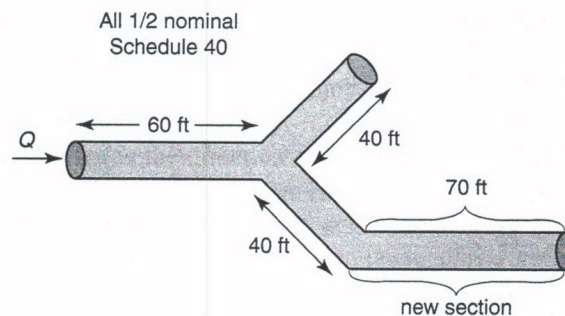

Figure 9.51
25. A Y-shaped piping installation for water flow is extended as shown in Figure 9.51 by the addition of a 70-foot section of the same type of pipe. The flow rate into the piping is a constant value of 4.0 gpm. What is the flow-rate split before the modification? What is the flow-rate split after the modification? All of the piping is 1/2-inch nominal Schedule 40 steel pipe. You may neglect the losses in the fittings.